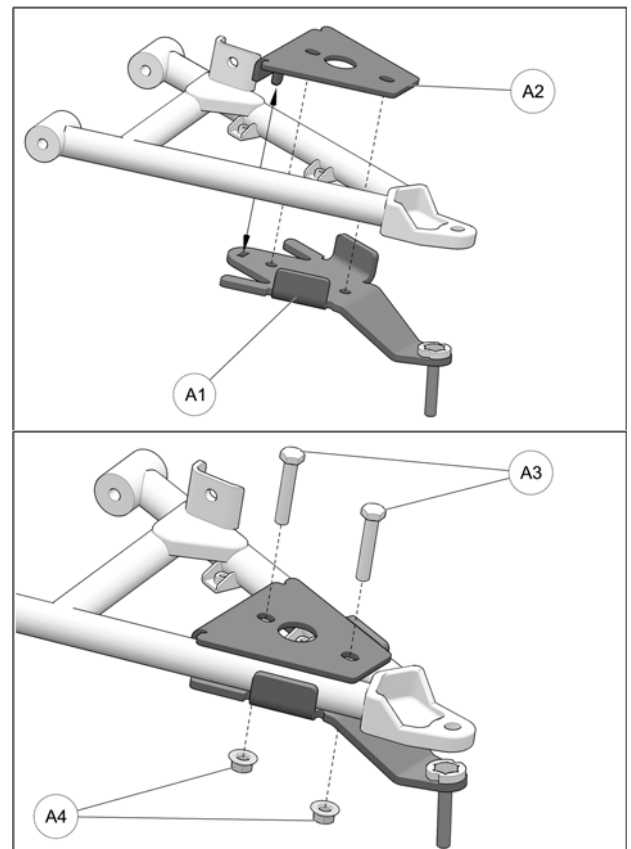

Fig. 15
5. Position bottom part of anchor bracket (A1) assembly under front lower suspension arm, as shown in the figure below. Position bracket cover (A2) over suspension arm and align holes in cover and bottom part. Insert the M10x55mm bolts (A3) from the top and secure the two parts together with the nuts (A4) provided. Tighten assembly to 50 N•m [37 lb•ft] of torque. Refer to Fig. 15